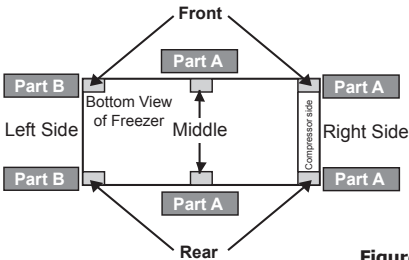

Figure 2
- Caster installation for the 20/25 cu. ft. freezer:** Remove casters and screws from the caster kit. Part A casters are installed on the right front and rear compressor side and middle front and rear of the unit. Part B casters are installed on the left front and rear of the unit (with brake lever facing outside of unit). Line up the caster holes with the corresponding screw holes in the mounting locations. See Figure 2.